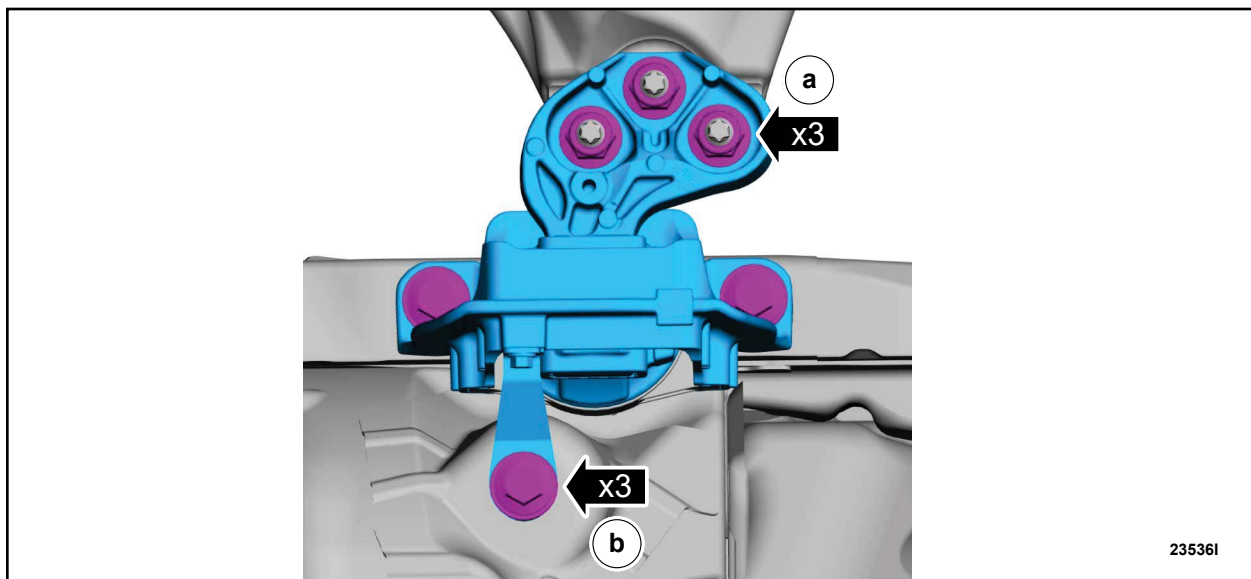

FIGURE 11
17. Remove the engine mount. See Figure 11.